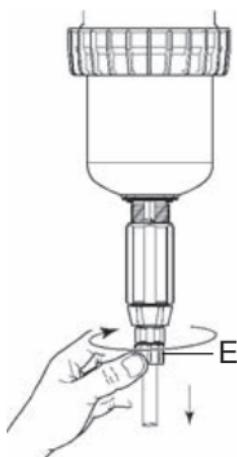
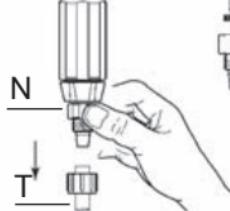

Fig. 16
Fig. 17
- Unscrew the nut (Fig. 16-E) and pull downwards to remove the suction hose (Fig. 17-T).
- Unscrew and remove the nut (Fig. 17-N).
- Pull downwards to remove the suction valve assembly (Fig. 17).